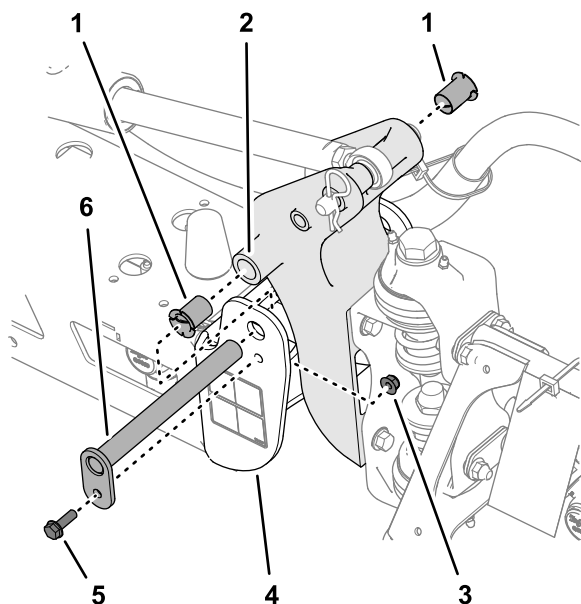

Figure 150
3. Remove the bolt and nut that secure the pivot pin, and remove the pin (Figure 150).
5. Remove and inspect the nylon bushings from the front and back sides of the pivot bracket (Figure 150).
6. Lubricate the nylon bushings with a small amount of oil, and install the bushings into the pivot bracket (Figure 150).
7. Align the holes in the pivot bracket with the holes in the end channel (Figure 150).